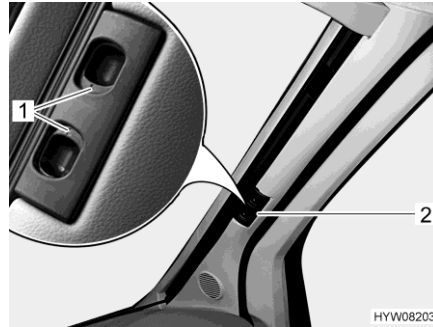

Fig. 41 Roman shade for the windscreen
- Use the handle (Fig. 41,2) to pull the two halves of the Roman shade for the windscreen outwards as far as they will go. When doing so, move the handle horizontally in the direction of the locking recess.
- Allow the release handles (Fig. 41,1) to engage.